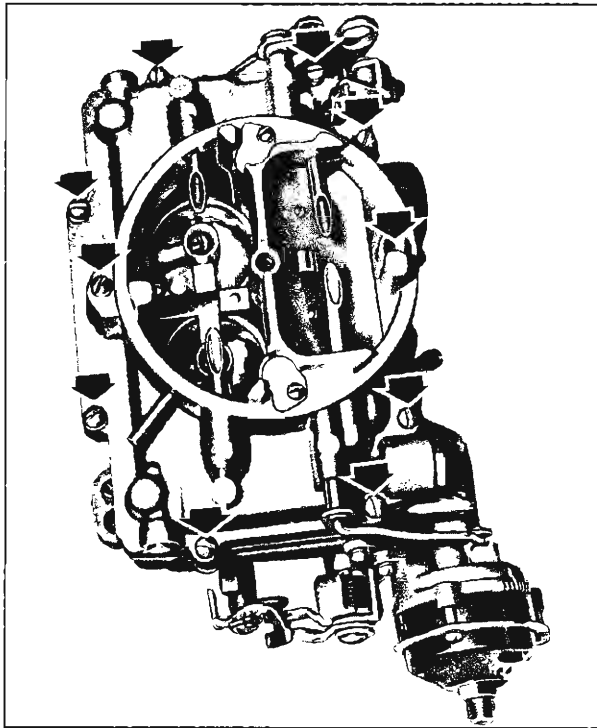

Fig. 28—Bowl Cover Attaching Screws
4. Remove bowl cover attaching screws and carefully remove bowl cover (figs. 28 and 29).